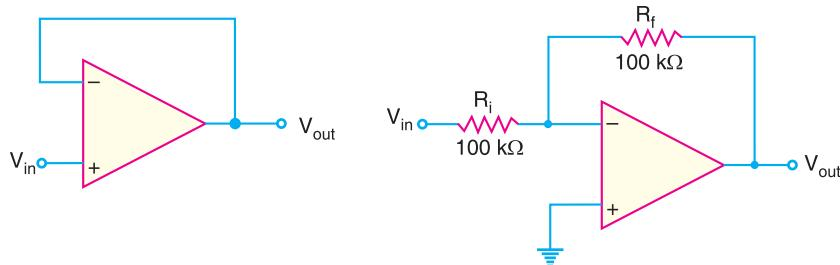

Fig. 25.104
11. Find the closed-loop voltage gain for each of the circuits shown in Fig. 25.104.